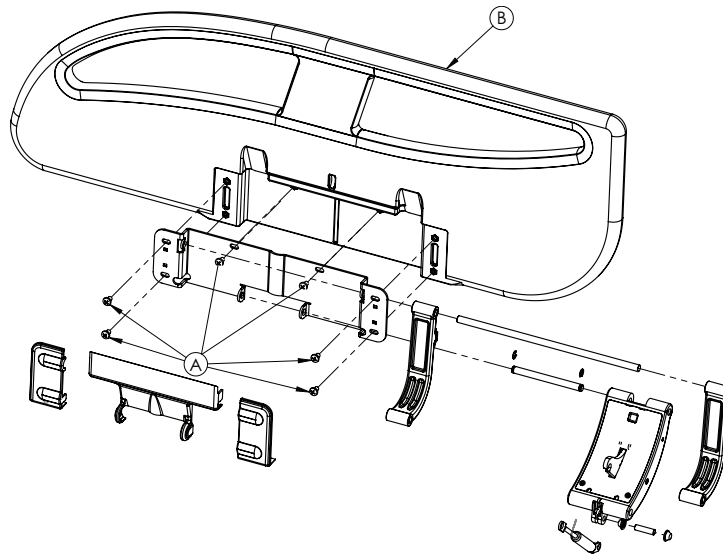

Figure 16 – Head end siderail hoop
12. Using a #2 Phillips screwdriver, remove and discard the six screws (A) that secure the siderail hoop (B) to the siderail mechanism (Figure 16).
8. Using a #2 Phillips screwdriver, remove and discard the six screws (A) that secure the siderail hoop (B) to the siderail mechanism (Figure 16).